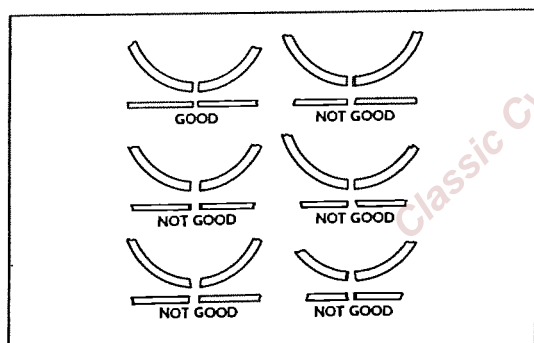

Fig. 3.105 Profile of piston ring gap
- When the piston ring has been removed, it should be fitted with the gap approximately 15 mm (.6") from skirt of the cylinder at a right angle to the center line. Measurement of the gap should be made with a thickness gauge. (Refer to Fig. 3.105)
- If the piston ring gap is too small, seizure between the ring and cylinder occurs due to thermal expansion; if the gap is too large, oil penetration or gas leakage occurs. (Refer to Fig. 3.105)